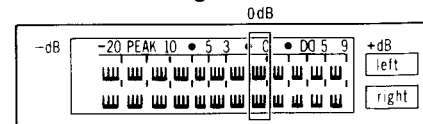

Fig. 17
5. Adjust ATT and check that all segments of the FL meter lights up when an input signal level is increased to 10dB higher than the standard input level (See fig. 17).